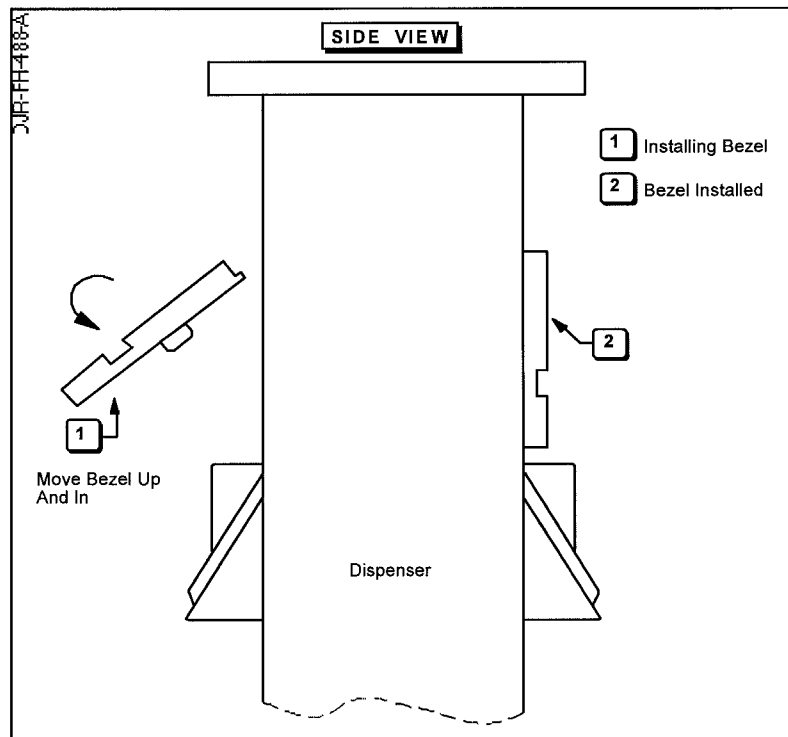

Figure 3-4 Mounting Bezel into Head
4. Slide bezel bottom forward against head frame. See Figure 3-4 .